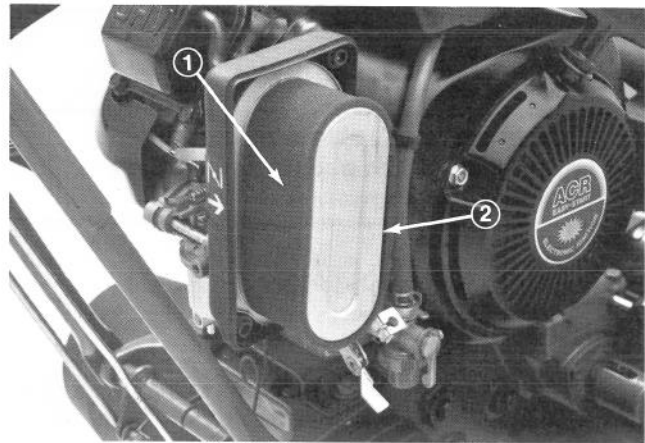

Figure 32
3. Examine foam element around filter. If element is dirty or discolored, it must be removed from the air cleaner body, then cleaned (Fig. 32).